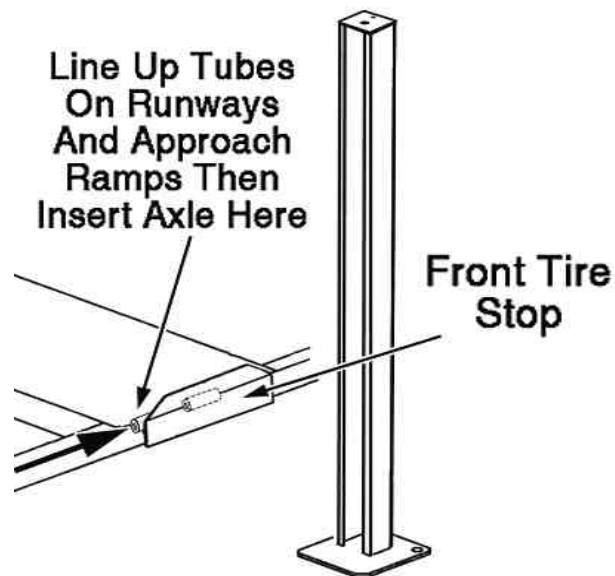

Fig. 15
4. Install the front tire stops. (See Fig. 15)